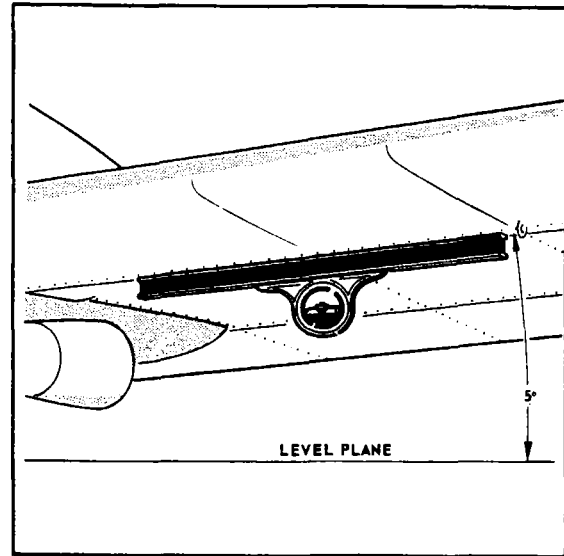

Figure 2-10. Lateral Leveling
1. Set a bubble protractor at five degrees and place on a straight edge held along the front spar on the under-surface of the wing as shown in Figure 2-10. Do not place the straight edge on rivet heads.